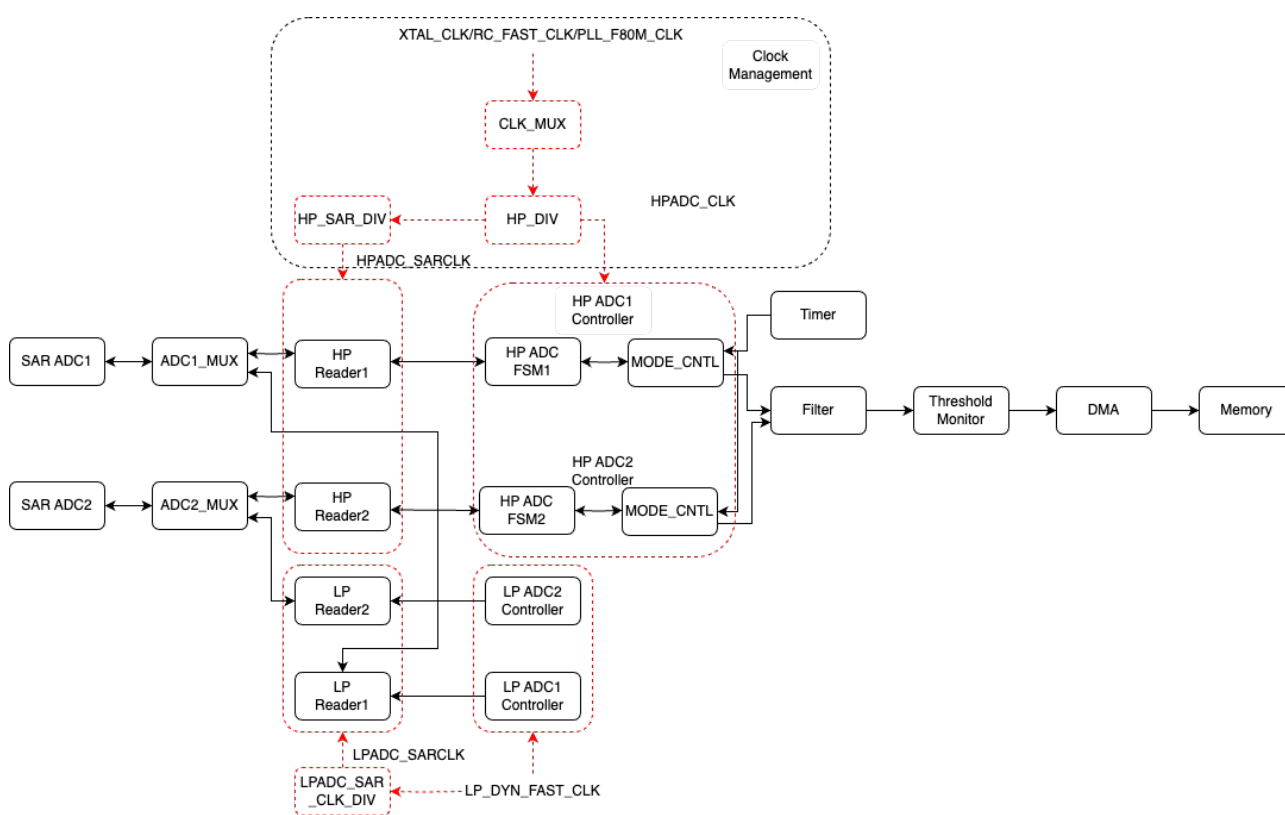

Figure 62.4-1. SAR ADC Architecture
The major components of SAR ADCs and their interconnections are shown in Figure 62.4-1.
As Figure 62.4-1 shows, the SAR ADC module contains the following major functional blocks:
- Transfers the conversion result to the filter. Then the threshold monitor transfers the filtered result to memory via GDMA (see Figure 62.4-1).